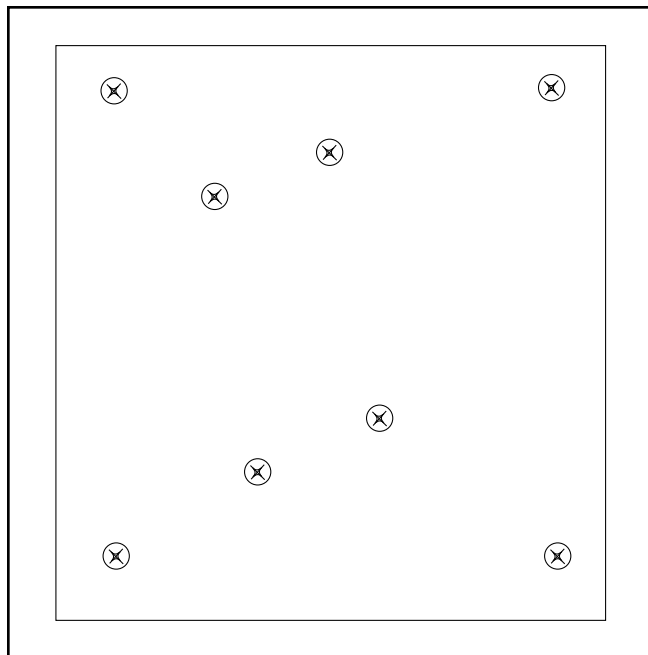

FIGURE F.12 - Control Board Mounting Screw Locations may vary with different Code Machines.
4. Remove the eight Phillips Head mounting screws using a Phillips Head screwdriver. See Figure F.12.